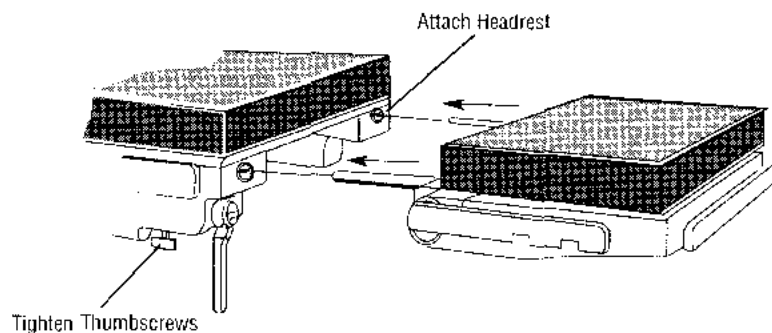

Figure 4-1. Attach Headrest
1. Determine desired patient position and attach headrest to the end of the table to obtain this desired position (see Figure 4-1).